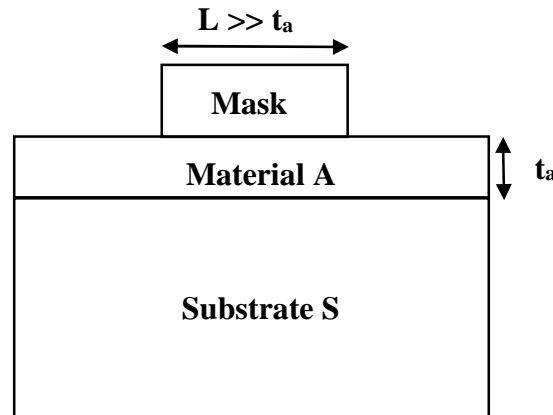

Figure 3
3. Figure 3 shows thin film A (thickness t_a) with a patterned photo-resist of feature $L \gg t_a$ on substrate S. Explain why condition $L \gg t_a$ is imposed. Complete the table below under the etching condition listed in the table for two etching recipes: (i) no over-etch and (ii) 50% over-etch. The etch selectivity is of A:S is 10:1. State two assumptions about the photoresist.